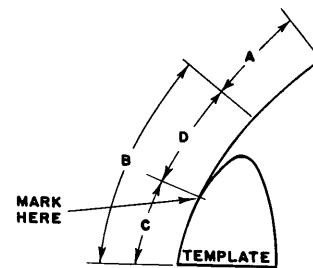

Fig. 3
4. Roll remaining portion (B) of sheet to the next smaller radius and make a note of the roll position.
5. Repeat operation no. 3, marking on sheet where it leaves the template. (Fig. 3)